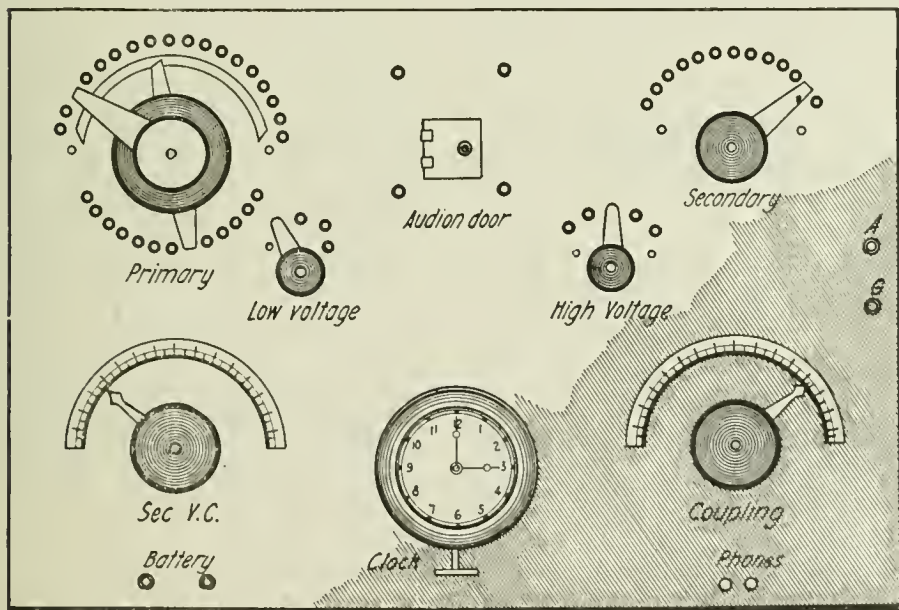

Fig. 1
The box "B" in Fig. 1 is made from wood, the joints of which should be made as tight fitting as possible. It is more than likely that it will leak at first but the oil will soon swell the joints and prevent this.
1. The hole "U" is drilled about  $\frac{2}{3}$  the length of the arm from the hole "D." At "C" a thread is tapt to admit threaded rod "L," which is  $\frac{1}{8}$  or  $\frac{3}{32}$  inches in diameter, depending upon the type of handle used. The hole "E" is drilled and small screw-eyes soldered in as in Fig. 1. "R" is fastened to switch-board "H" by means of the hinge posts "W" which are constructed the same as hinge posts "X," Fig. 2. About  $\frac{1}{2}$  inch side play is left, the reason for this will soon be shown.
The binding posts are fastened to box as shown in Fig. 1. The black-shaded portions being oil-soaked leather washers
The panel design is shown in Fig. 1.
If all dimensions are in centimeters the first formula is used, Fig. 1; but if all dimensions are in inches the factor 31.9 is introduced to care for the change in unit.